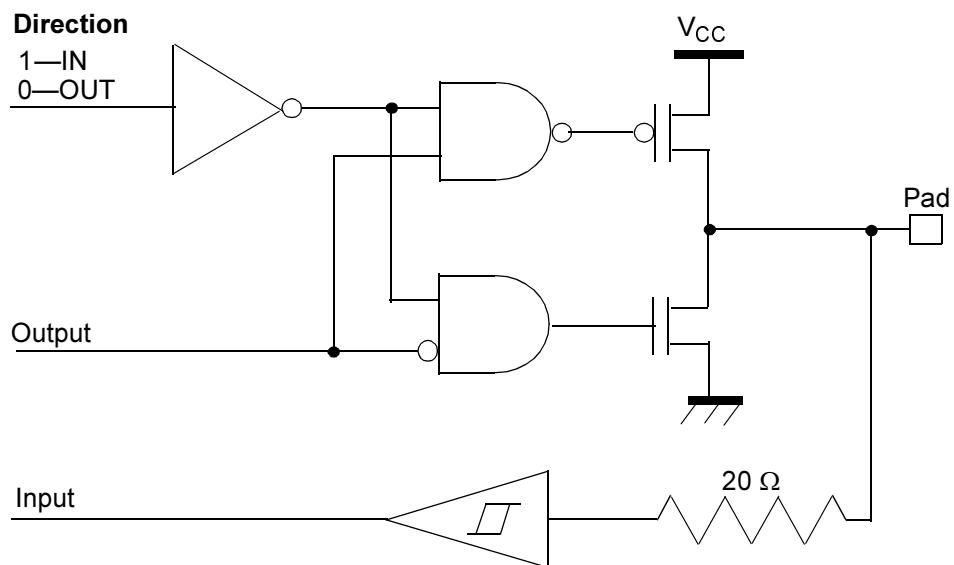
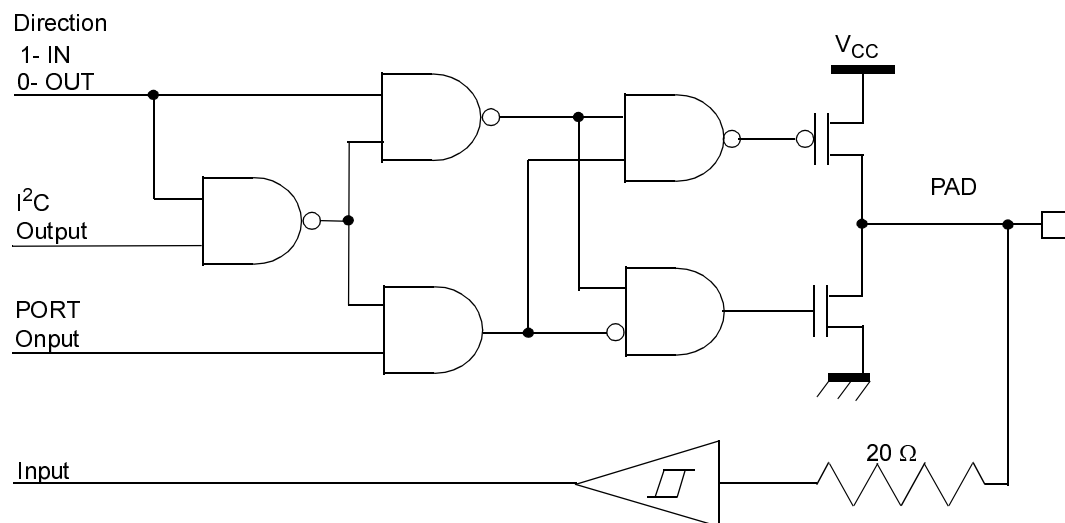
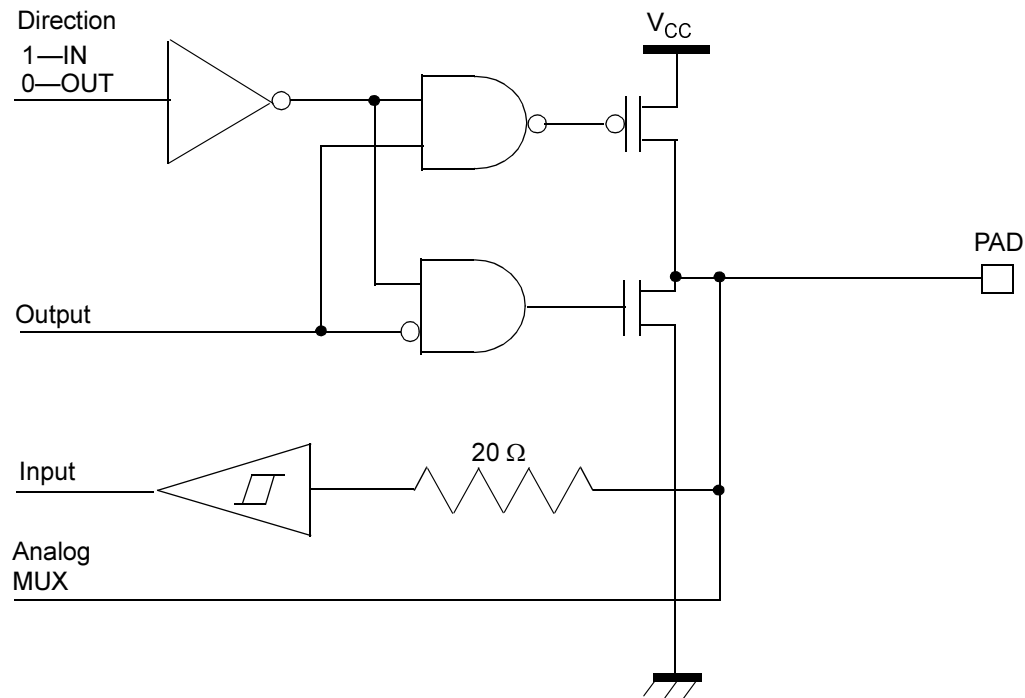

Figure 10 Bidirectional Port Pins
Figure 11 Bidirectional Pins Multiplexed with I2C Port
Figure 12 Bidirectional Pins Multiplexed with ADC Inputs
Port 0 and 1 directions are defined in R6 (0) and R7 (0) , respectively. R4 (0) and R5 (0) are data registers for both Ports 0 and 1. Figure 10, Figure 11, and Figure 12 indicate I/O configuration and sharing with other functional units.